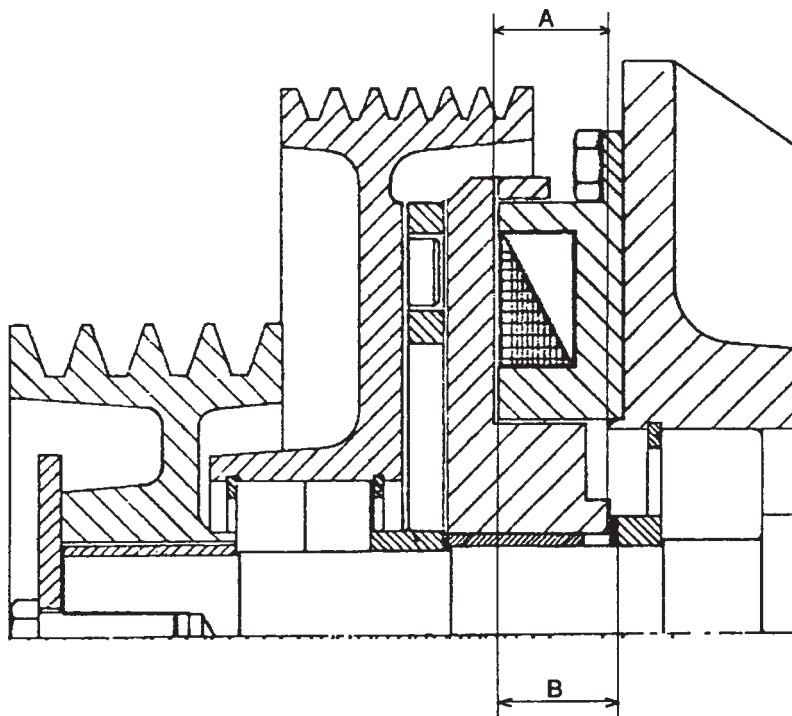

Figure 18. Measuring the spacer washer
- measure and note the distance from the central rotor flange to the bottom of the rotor compartment for the magnet (A) (Fig. 18).
- measure and note the distance from the surface of the magnet to the spacer ring at the front bearing (B) of the gear housing (Fig. 18).